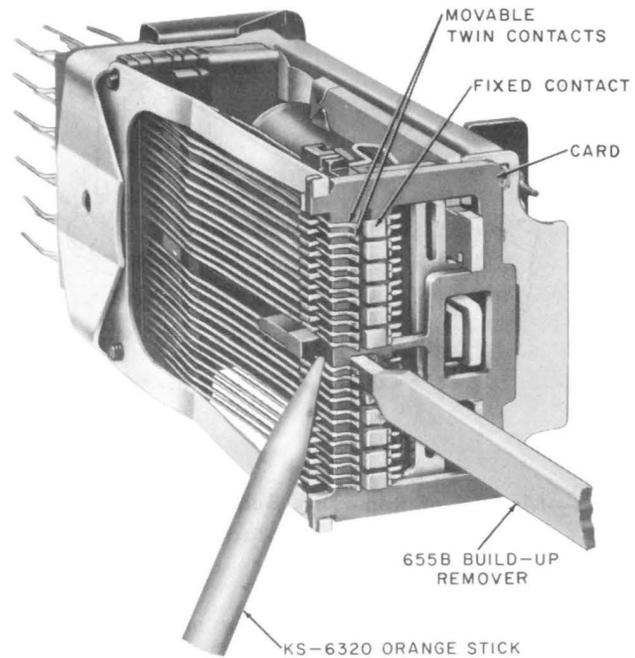

Fig. 37—Method of Removing Buildups On Twin Contacts of AF-, AG-, AJ-, AK-, AL-, and AM-Type Relays (Wire-Spring Type)
- (1) Insert the 655B build-up remover between the twin and fixed contacts with the fixed contact seated in the groove of the build-up remover. On normally closed contacts, operate the relay manually, insert the build-up remover and release the relay. Exercise care when inserting the build-up remover to avoid pushing on the outer end of the contacts since this may distort the spring or force the contact off the spring. Insert the build-up remover only to the inner edge of the contacts to ensure that it will clear the card at all times.
- (2) Press the twin contacts lightly against the build-up remover by applying the flat portion of the KS-6320 orange stick to the springs at the point where they rest on the card as shown in Fig. 37.
- (3) Move the build-up remover back and forth against the contacts to remove the buildup, being careful to keep the build-up remover approximately perpendicular to the front of the relay. After two or three strokes, withdraw the build-up remover and inspect the contact surface with the aid of the 510C test lamp (with the tip removed). If the buildup is at the front or rear of the contact, its removal will be facilitated by slightly swinging the build-up remover to the left or right as required to more effectively reach the buildup.